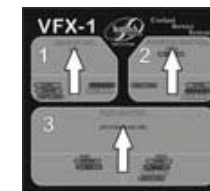

Figure 4
- 7) Return all control panel valves to neutral position. (*Fig 4*)